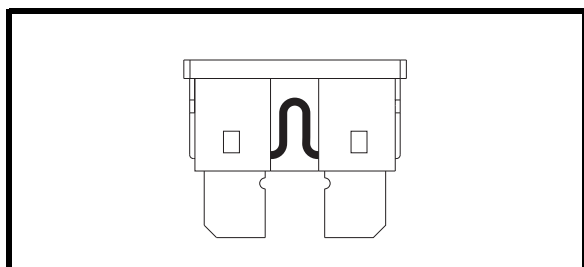

Figure 23. Working Fuse
2. Examine the fuse to be sure it is blown. **See figures 23 and 23A.**